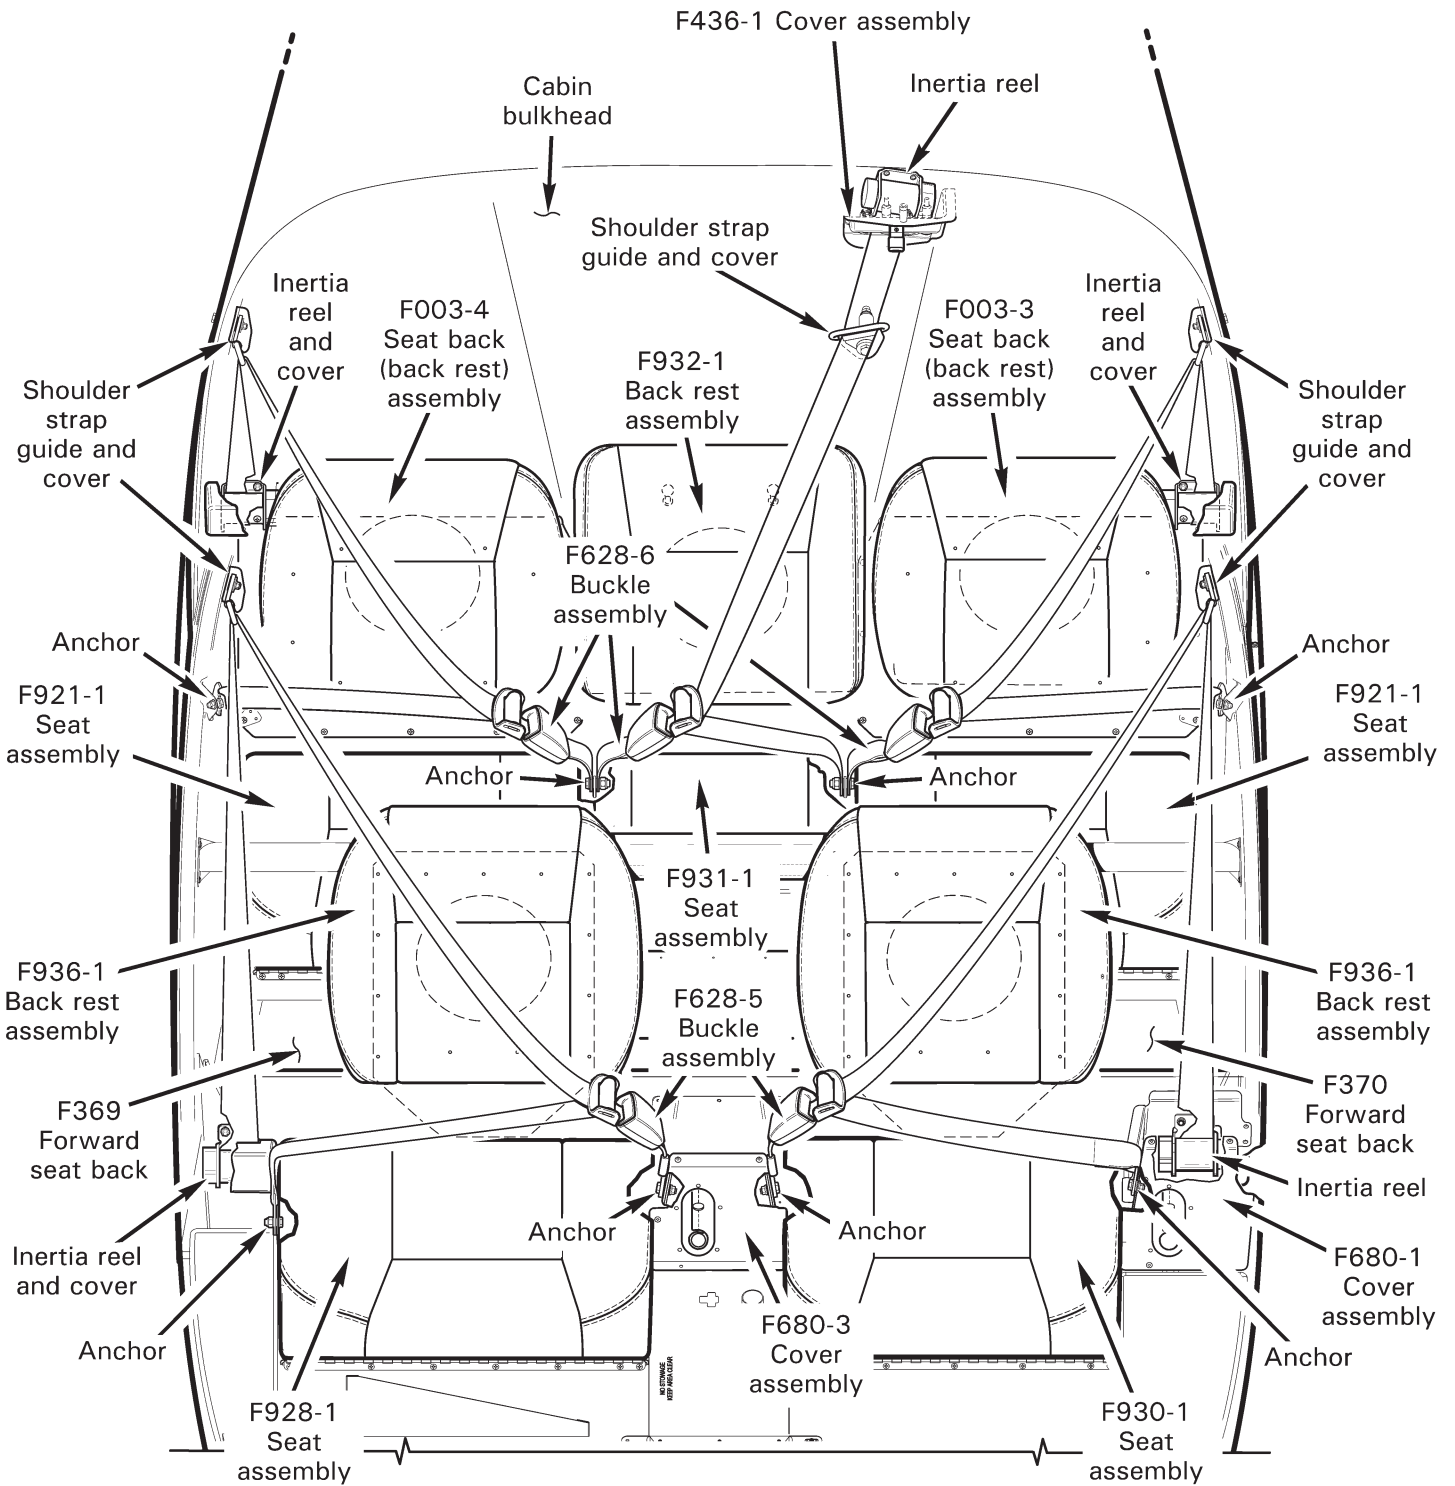

FIGURE 25-1 SEAT HARNESSES, SEAT ASSEMBLIES, AND BACK RESTS
1. Refer to Figure 25-1. Remove F680-1 and F680-3 collective cover assemblies; hinge seat assemblies forward.
2. Refer to Figure 25-1. Remove F680-1 and F680-3 collective cover assemblies; hinge seat assemblies forward.
1. Refer to Figure 25-1. Remove F931-1 seat assembly; hinge left and right seat assemblies forward.
2. Refer to Figure 25-1. Remove F931-1 seat assembly; hinge left and right seat assemblies forward.
1. Refer to Figure 25-1. Install hardware securing inertia reels to F369 and F370 forward seat backs. Install right side reel cover.
4. Refer to Figure 25-1. Install F680-1 and F680-3 collective cover assemblies; hinge seat assemblies forward.
1. Refer to Figure 25-1. Install hardware securing inertia reels to cabin bulkhead. Install reel covers.
1. Refer to Figure 25-1. Install hardware securing inertia reel to cabin bulkhead. Install F436-1 (headset jack) cover assembly. Verify security.
Refer to R66 Illustrated Parts Catalog (IPC) Figure 25-1.
1. Refer to Figure 25-1. Remove or install hardware securing forward hinge to seat box.
1. Refer to Figure 25-1. Center seat assembly attaches and detaches to and from the seat box via hook and loop tape (Velcro).
1. Refer to Figure 25-1. Remove or install hardware securing back rest assembly to cabin bulkhead.
1. Refer to Figure 25-1. Detach back rest assembly hook and loop tape (Velcro) at bottom; slide back rest assembly up and out of keyhole slots.
1. Refer to Figure 25-1. Drill out rivets securing back rest cushion to seat back panel and deburr holes. Remove cushion.
1. Refer to Figure 25-1. Remove back rest assembly per Section 25-22.